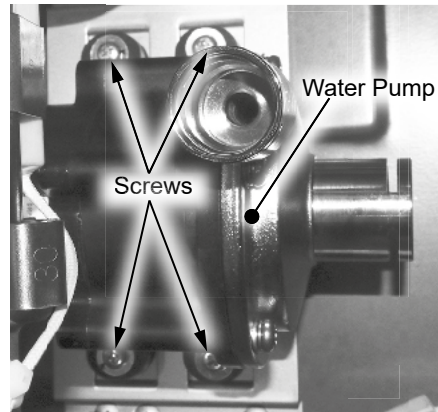

Figure 12 - Water pump screw locations
- 22 Locate the four (4) screws securing the water pump assembly to the bracket at the back side of the water heater cabinet. Use a 12" Phillips screwdriver to loosen screws so they no longer engage bracket threads. Do not remove screws from gasket boots. See Figure 12.